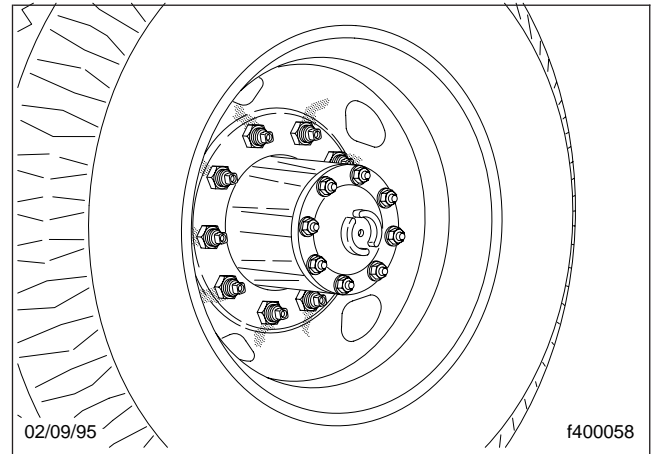

Fig. 12.7, Dirt and Rust Streaks from the Stud Holes
- 19.1 Remove all dirt and foreign material from the assembly. Dirt or rust streaks from the stud holes, metal buildup around stud holes, or out-of-round or worn stud holes may be caused by loose wheel nuts. See Fig. 12.7 and Fig. 12.8.